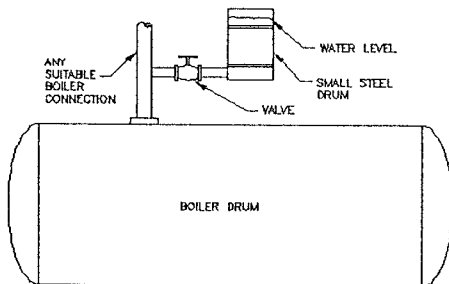

Figure 3.11A: WET LAY-UP STATIC HEAD DRUM
2. After filling, the boiler must be closed or blanked tightly. The power supply to the boiler must be cut off. Vent all air from the top of the boiler to allow complete fill with the required solution. Nitrogen gas at 5 psig may be introduced through a suitable opening to prevent air in-leakage during the lay-up period. An alternative to the nitrogen gas (see safety precautions under dry lay-up) is to install a 55 gallon drum or auxiliary vessel as shown in Figure 3.11A. This is to be fitted with a cover and filled with properly treated water. This vessel or drum should be connected to an available opening in the top of the vessel. Its purpose is to create a hydrostatic head and to allow a ready visual check of water level loss or in-leakage during the lay-up period.
If the tests indicate chemical concentration has decreased, chemical may be introduced to the boiler by putting it in the drum shown in Fig. 3.11A. Then lower the boiler water level to introduced it into the boiler. Then operate the boiler at low fire to